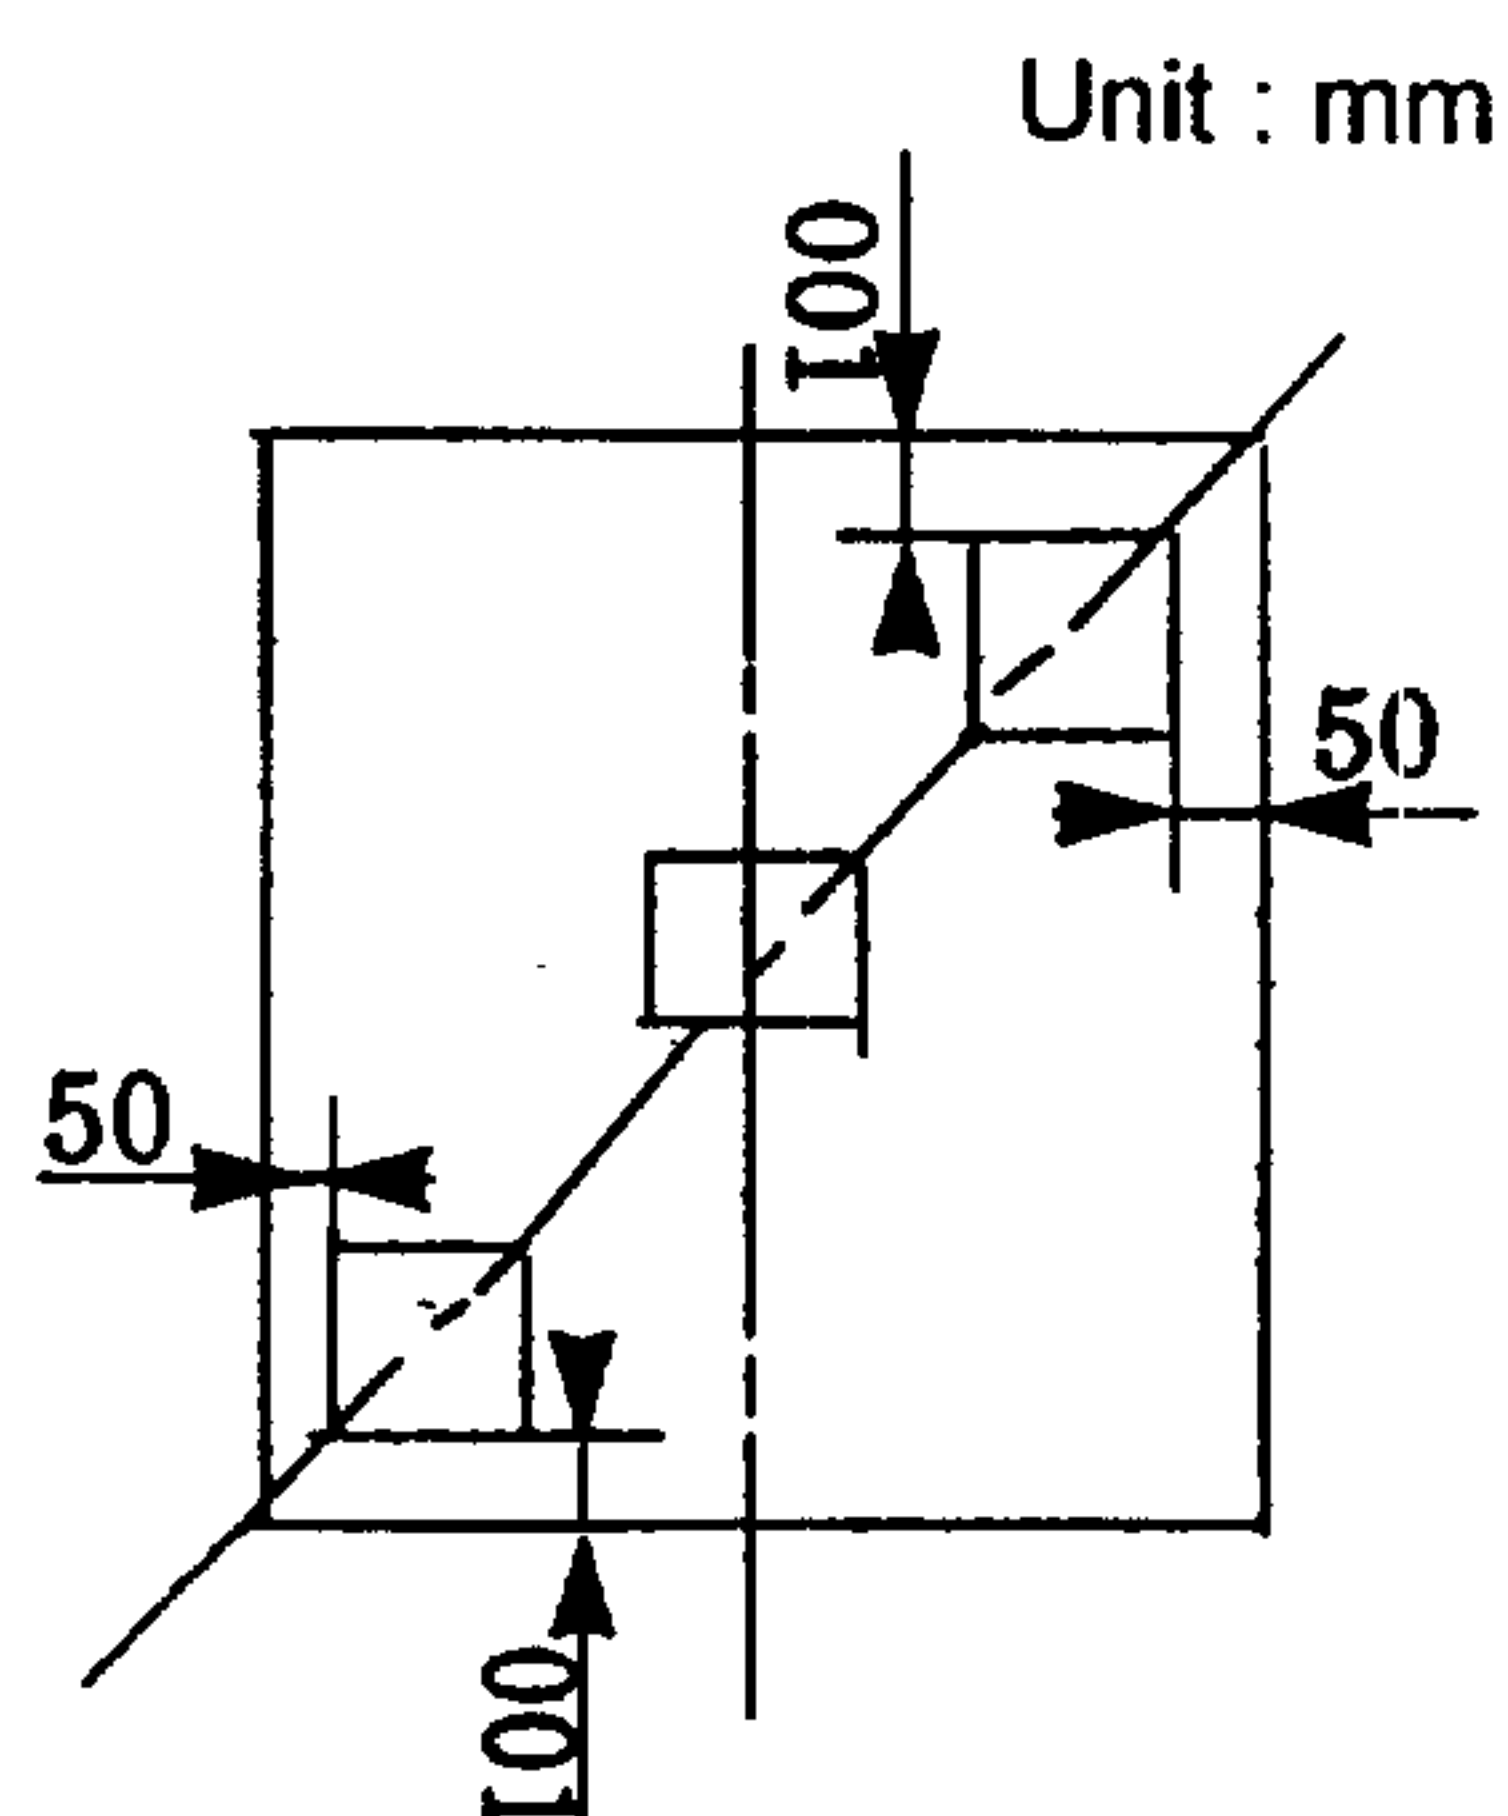
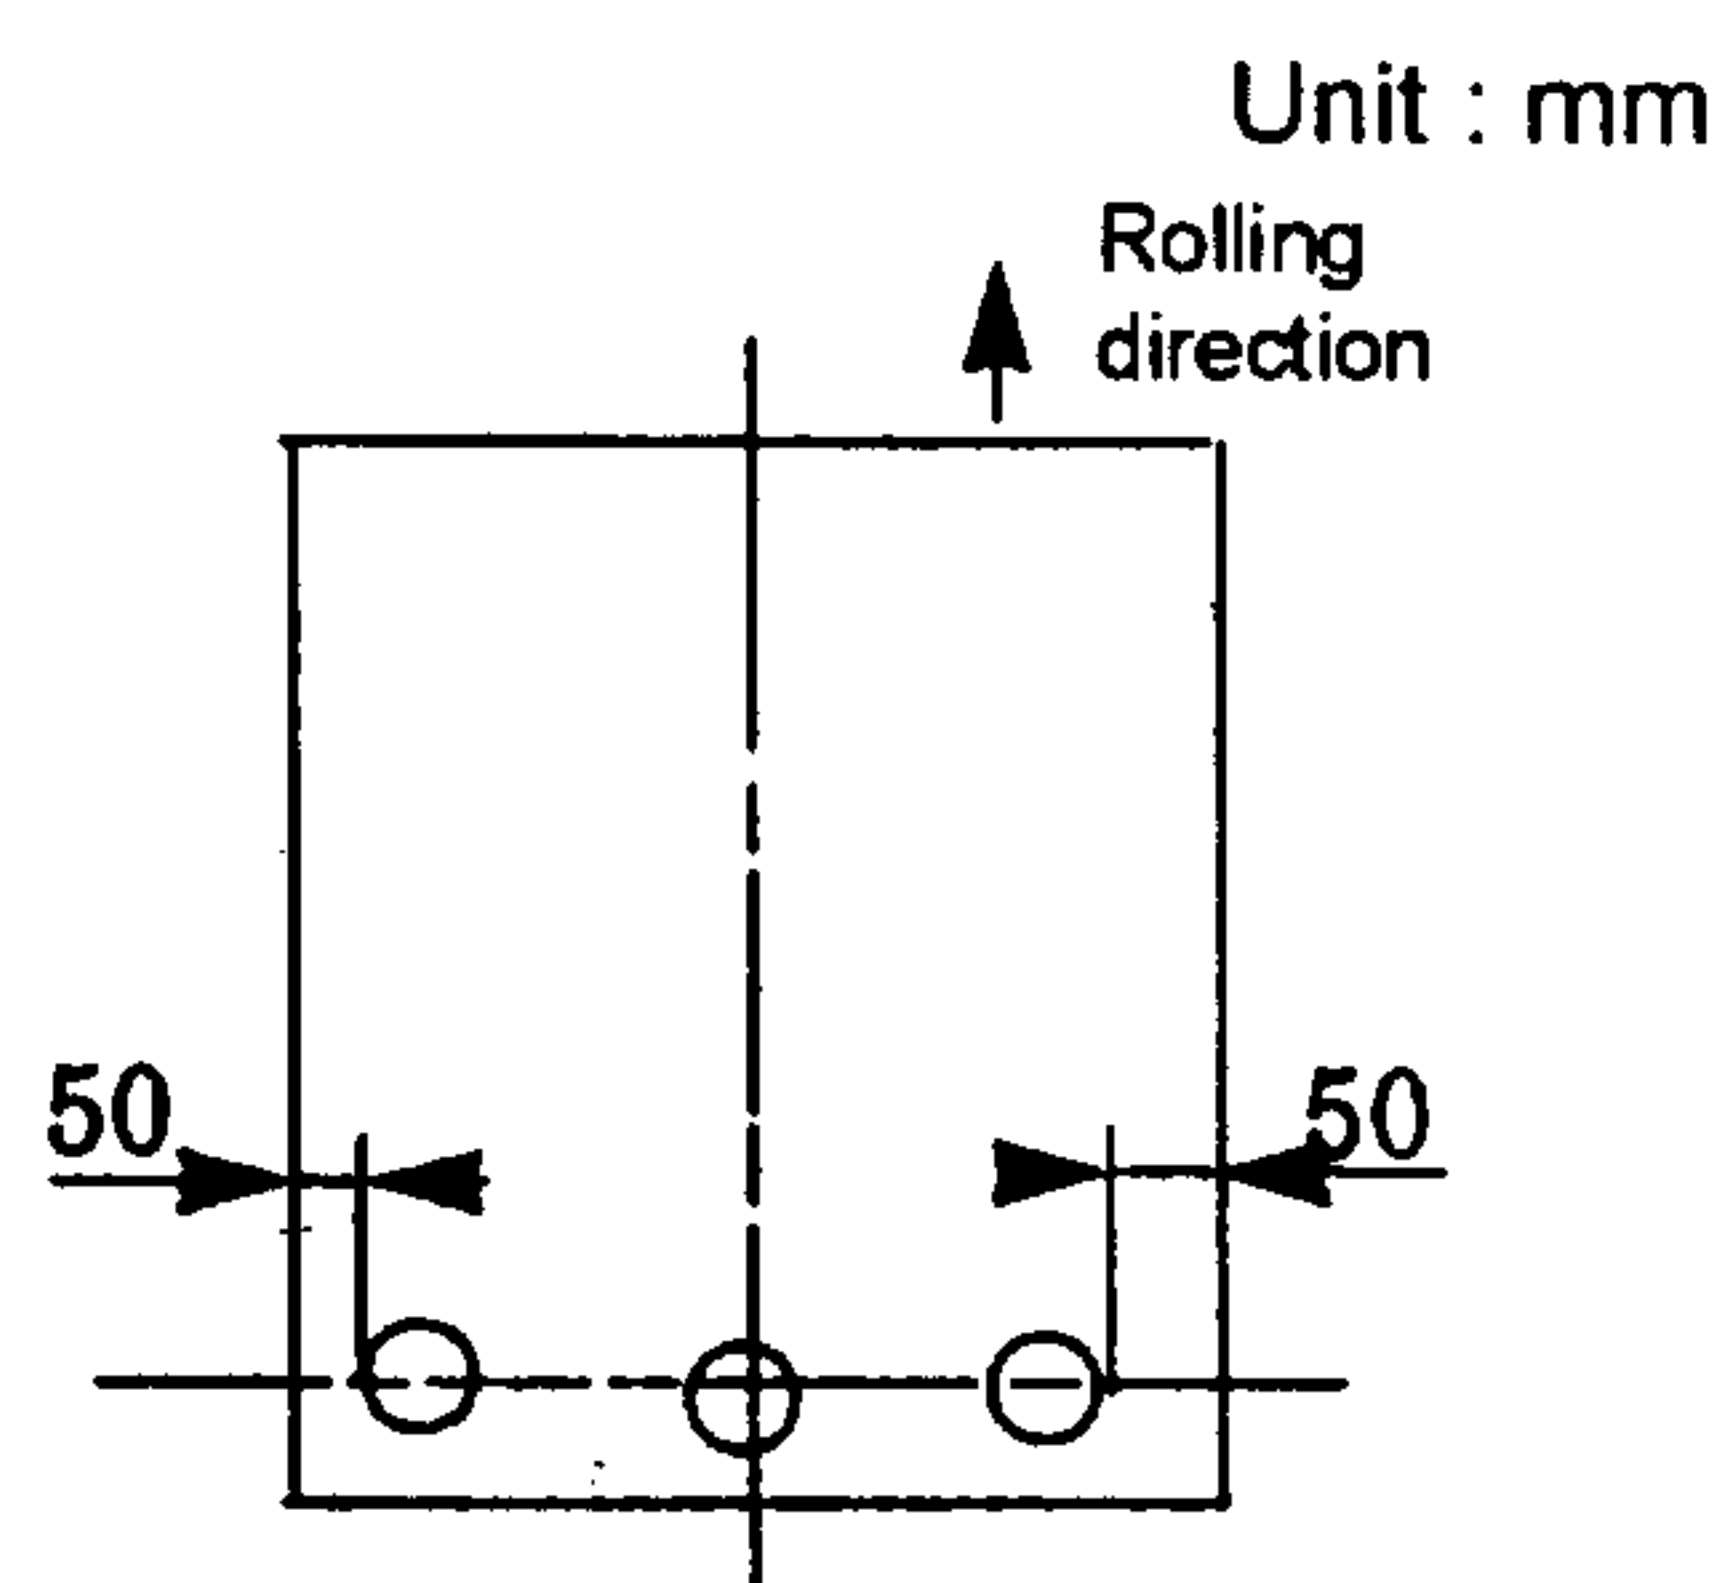

Fig. 1.
Fig. 2.
After consultation with a person concerned, use method illustrated in Figure 1 or Figure 2 to the size of 57.2 x 57.2 mm or diameter of 64.5 mm by (1)-(b).
As shown in Figure 1, take 1 sheet of sample from the center, 2 sheets of sample from the opposite side of diagonal location in the vertical end from 100 mm and horizontal end from 50 mm.